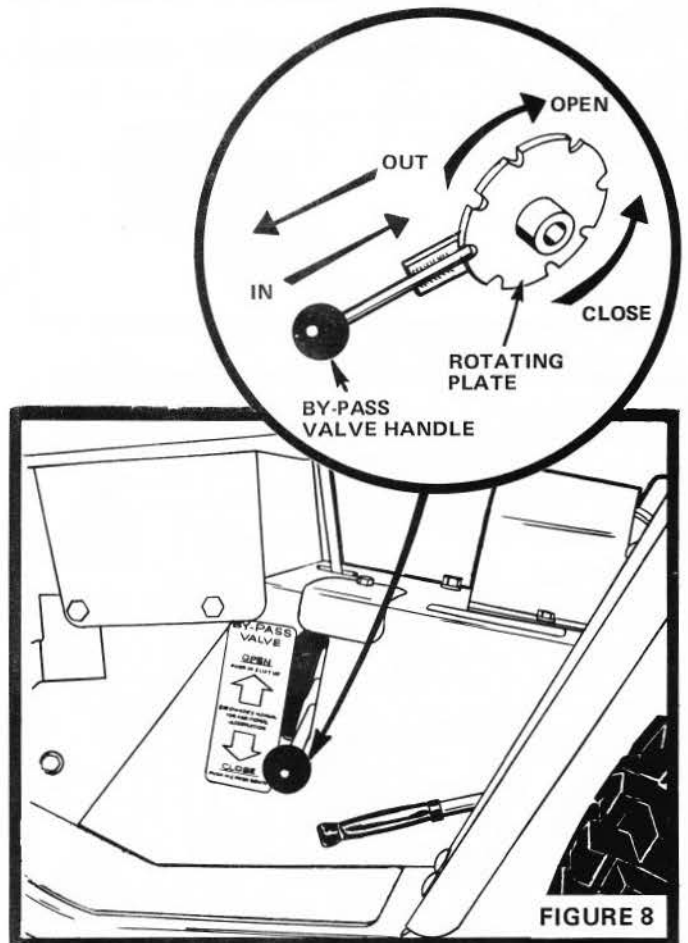

FIGURE 8
3. The By-Pass Valve Handle (Fig. 8) slides in and out, and rotates so that Handle will engage the notch in Rotating Plate. Moving the Handle up or down with Handle engaging notch will open or close By-Pass Valve.